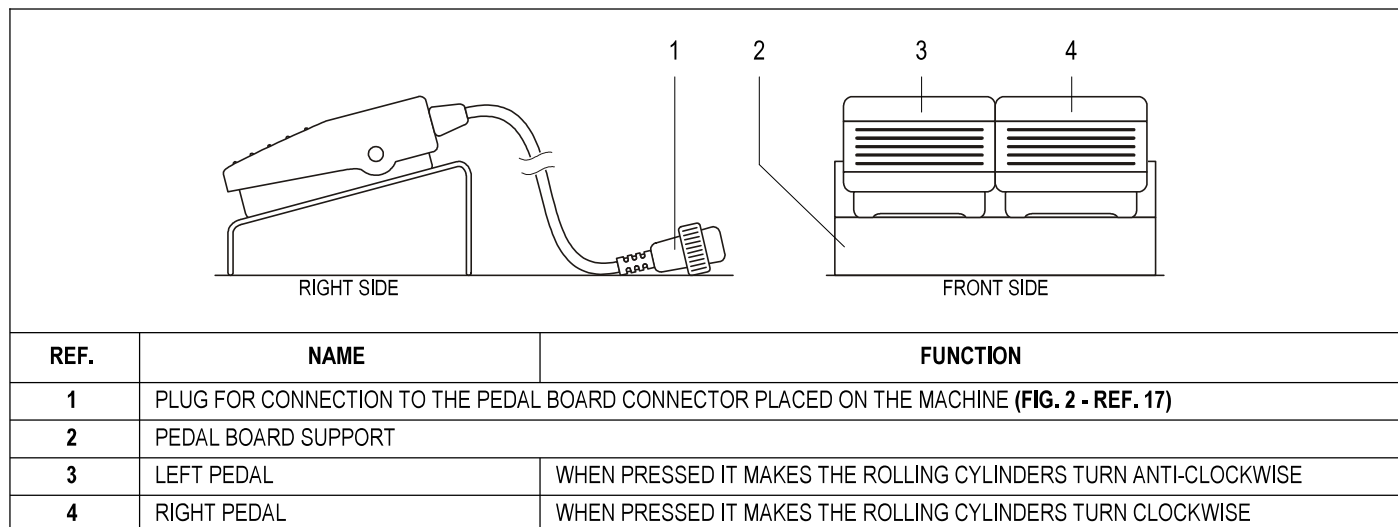

FIG. 10 (Inversion pedal board)
- 1) (**Only for mod. 2 V**) If necessary, select the processing speed by turning the speed selector to the "1" or "2" pos. (FIG. 10 - Ref. 1);
- 2) Put the general electric switch in the "I" (ON) pos. (FIG. 10 - Ref. 2);
- 3) (**Only for mod. VAR 1 PH**) If necessary select the processing speed by using the control panel (see FIG. 10);
- 5) Adjust the desired dough thickness using the handle (FIG. 10 - Ref. 3);
- 6) **(Only for mod. 1 V - 2 V - 1 PH)** Start the machine by pressing the "START" button (FIG. 10 - Ref. 6);
- 7) **(Only for mod. VAR 1 PH)** Start the machine by pressing the "START" button (FIG. 10 - Ref. 11);
- 8) Choose the movement direction of the conveyor belts using the joystick (FIG. 10 - Ref. 5);
- 1) Switch the machine off, putting the general electric switch in the "0" (OFF) pos. (FIG. 10 - Ref. 2);
The emergency stop can be carried out by pressing the "Emergency stop" button installed on the control panel (FIG. 10 - Ref. 4). In order to prevent dangerous situations happening immediately or being caused, the trained operator must perform the operations shown in TAB. 15.